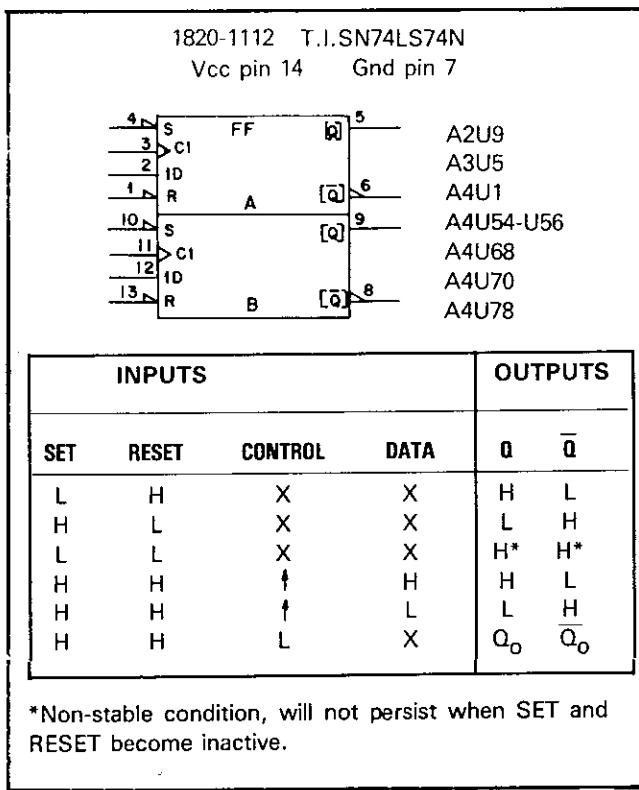

Figure B-13. Dual D-Type Flip Flop
**D-Type Flip Flop.** D-type flip flops are used for temporary storage of one bit of binary data. Figures B-13 through B-16 show four varieties of D-type flip flops. In each, the D input is stored and transferred to the output when the control input, C, goes from low to high. The C input in Figure B-16 is gated
by a low level at the G input. Note that Figure B-13 contains two identical flip flops, each with its own control, set, and reset inputs, while the others have common control inputs. The flip flops in Figures B-13 and B-14 have inverting as well as non-inverting outputs.